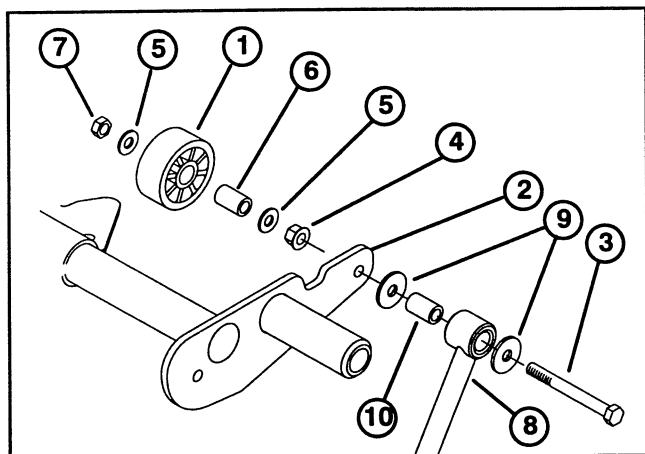

Figure 1
1. Secure rear link and rollers to inside of each end of rear carrier frame with a 3/8-16 x 3-1/2" lg. capscrew, (2) flat washers, spacer, flange lock nut, (2) flat washers, spacer and a thin locknut, positioning as shown in figure 1. Torque flange locknuts to 31 ft-lb. Discard capscrew and flange locknut shipped in link.